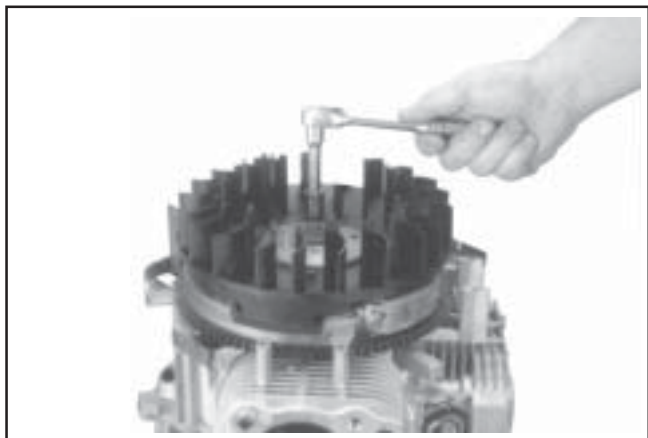

Figure 9-50. Removing Fan.
2. Remove the four hex flange screws or hex studs and washers. Remove the plastic fan from the flywheel. See Figure 9-50.